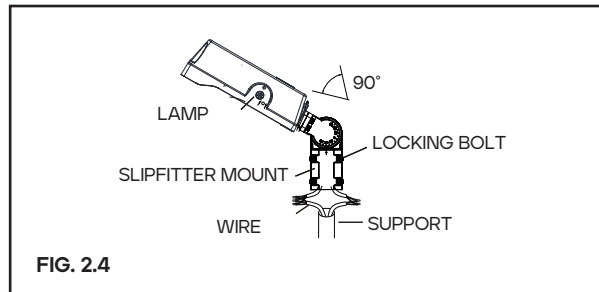

FIG. 2.4
STEP 3. Loosen screws: Adjust fixture angles as per actual demands and tighten screws later. Angle of the fixture is adjustable (pass the bracket through mounting surface, fix it with screws, then connect the wires as per proper wiring requirements) **FIG. 2.4**